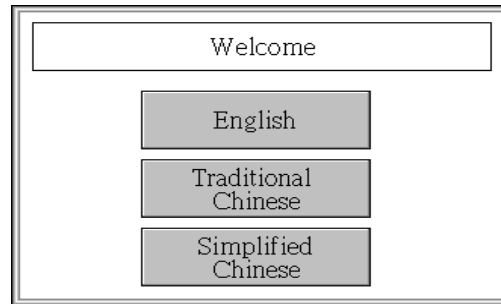

Figure 7.3.1
(1) Language 1 have been set as follow (Figure 7.3.1)